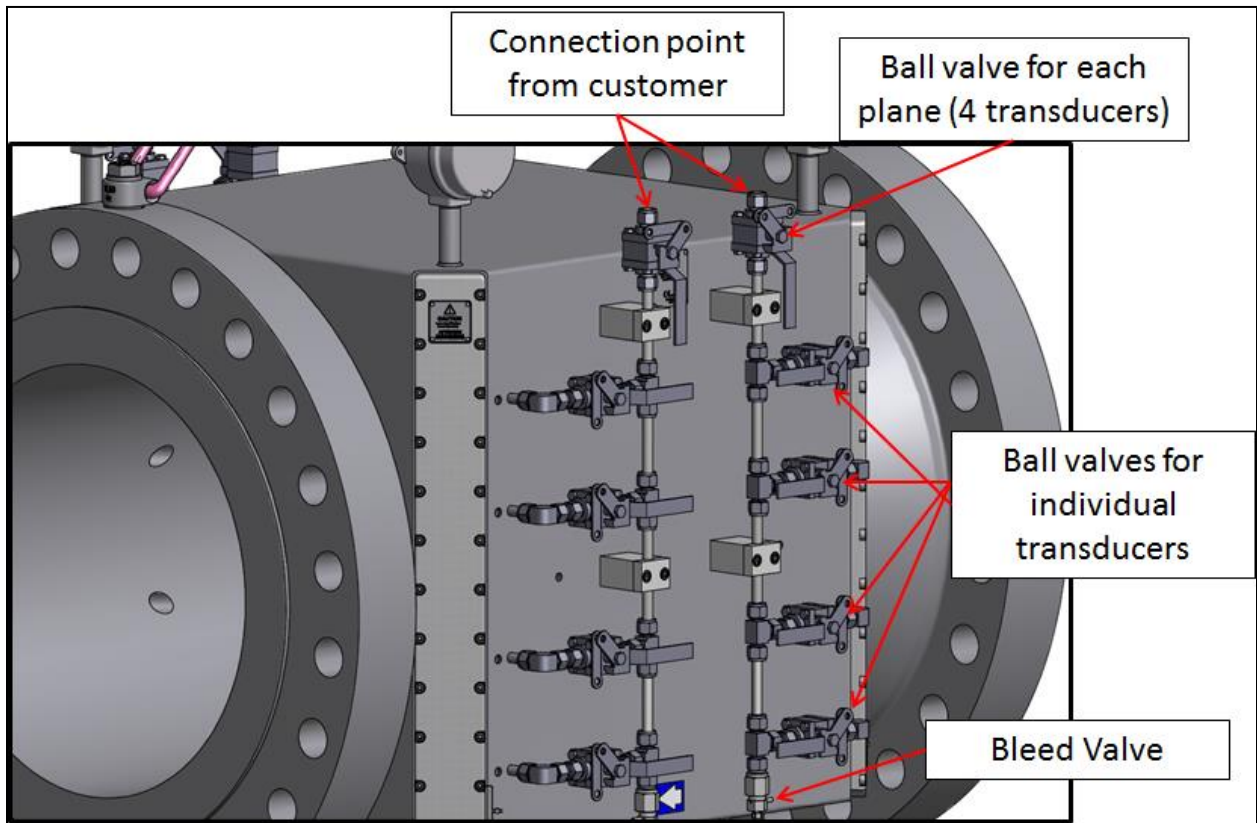

Figure 7.2: Typical Transducer Window Purge Port
1. Reference Figure 7.2 for a view of the transducer window purge port.